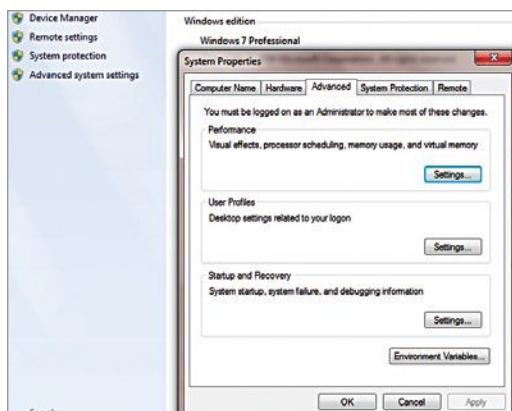

Fig. 7: Advanced System Settings
1. Right-click on My Computer, then Properties and then Advanced System Settings (Fig. 7).